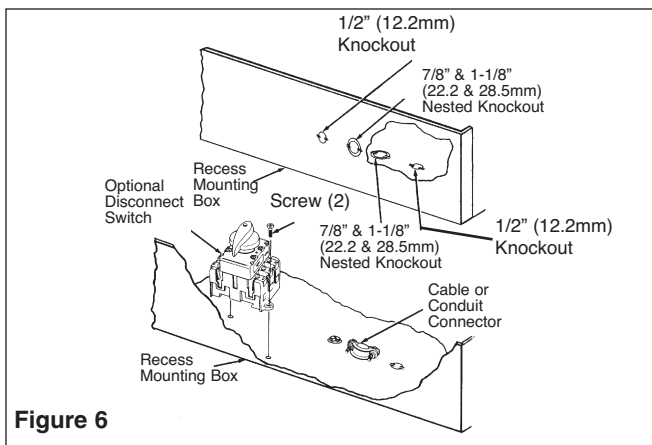

Figure 6
3. Remove the Recess Mounting Box (Figure 6) from the carton containing the Recess Mounting Enclosure, Type REA.
4. Remove one of the knockouts and install a cable or conduit connector (Figure 6).
5. Install the optional disconnect switch (if required) as shown in Figure 6.